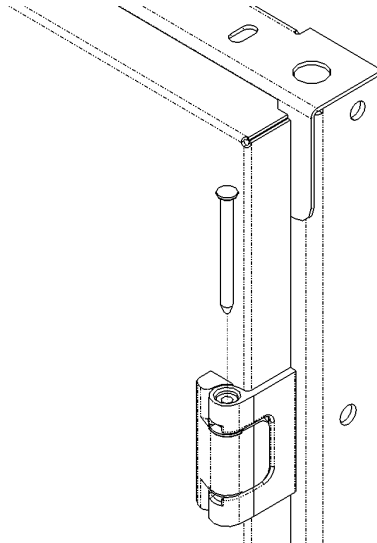

Fig. 2.4.1a Removing the hinge pin
2. With the door closed, remove the hinge pins by pushing the pins up from the bottom with a tool such as a small screwdriver. Grasp the pin head and pull the pin out the rest of the way (see Fig. 2.4.1a).